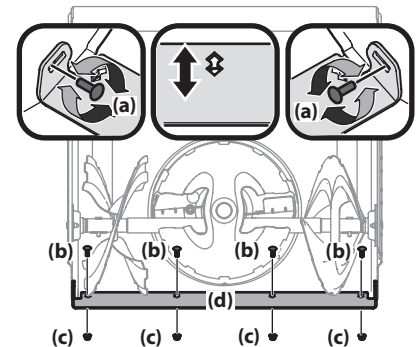

Figure 2-55
3. Loosen rear skid shoe bolts (a) on both sides of equipment housing and remove carriage bolts (b) and hex nuts (c) which attach shave plate (d) to auger housing. See Figure 2-55.
4. Adjust the shave plate so that it is roughly 1/8" above the skid shoes. Reinstall and tighten the carriage bolts (b) and hex nuts (c) all bolts securely. See Figure 2-55.